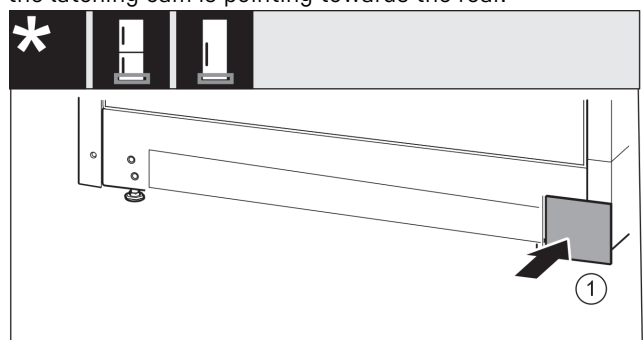

Fig. 32
- ▶ Re-attach the cover Fig. 32 (1) to the other side.